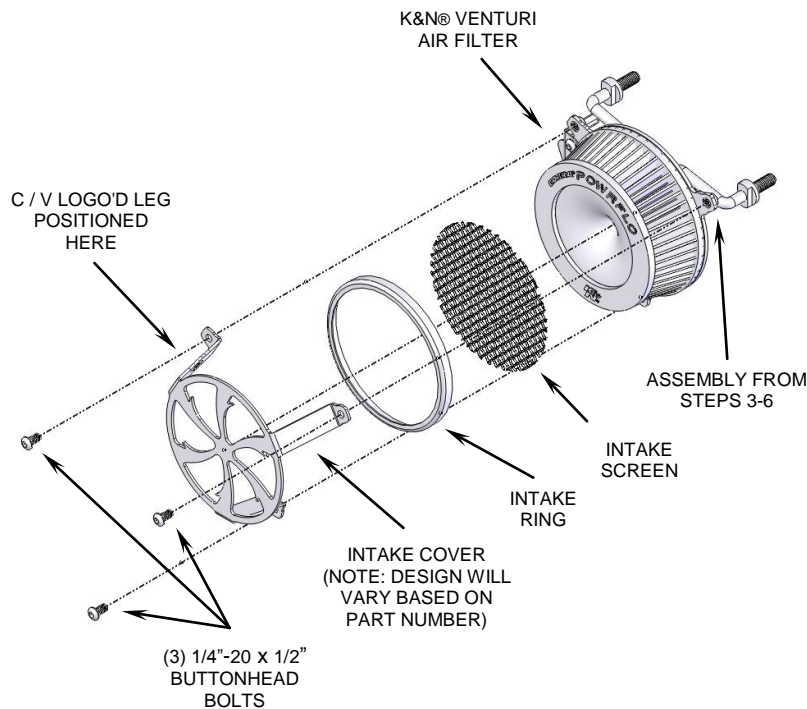

FIGURE 2
4. Join together the assembly from Step 3 with the supplied gasket then start threading the (3) buttonhead bolts into the throttle body, but do not tighten.
5. Insert the breather bolts into the cylinder heads and full tighten. Now snug the (3) buttonhead bolts evenly, and then fully tighten them to the throttle body.
7. Place the supplied K&N® filter onto the velocity stack. Insert the round intake screen into the chrome ring so the screen sits inside the edge of the ring. Place the ring and screen between the legs of the naked chrome intake cover as shown in Figure 2.
8. Place the naked intake cover, ring and screen assembled in Step 7, over the air filter and align each leg to the base mounting plate threaded holes. Be sure screen sits at a 45 ° angle to the bottom leg, and C/V logo'd leg is at the upper left position. Insert the (3) supplied 1/4"-20 x 1/2" buttonhead bolts through the intake cover and into the base mounting plate, see Figure 2. Double check all parts are aligned properly and tighten securely.